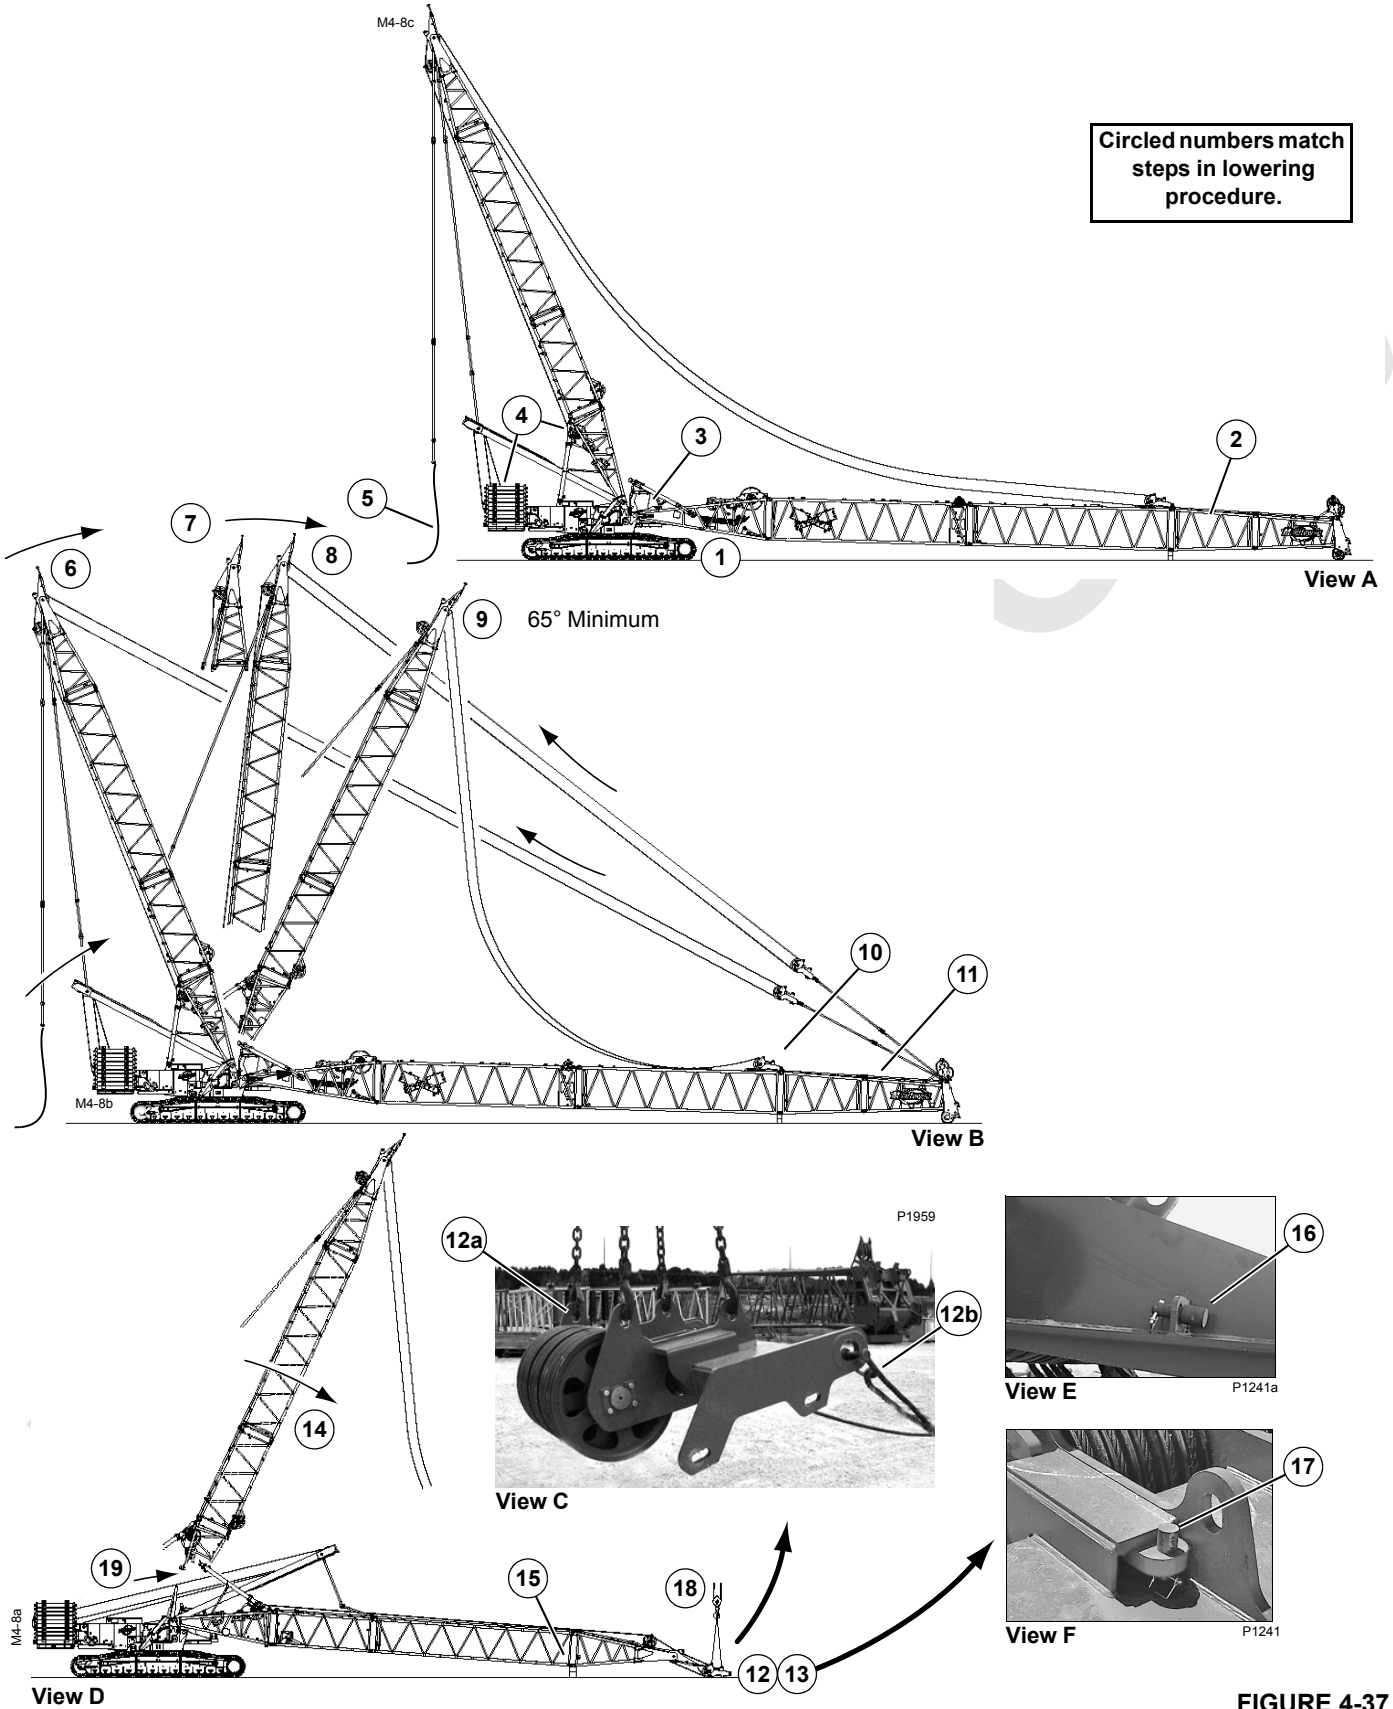

FIGURE 4-37
Circled numbers in Figure 4-37 match the following steps.
- f. Lift insert (7) clear of butt (10) and store insert on job site or place on transport trailer.
4. Install mast top (2):
- a. Check that retaining pins (Figure 4-37, View F) are installed in equalizer forks so boom hoist equalizer cannot fall off forks while performing step 4c.
- b. Attach lifting slings from assist crane to lifting lugs (1, View G) on mast top (2).
- c. Lift mast top into position at end of mast butt so fixed pins (4, View A) in top engage hooked connectors (5) in butt.